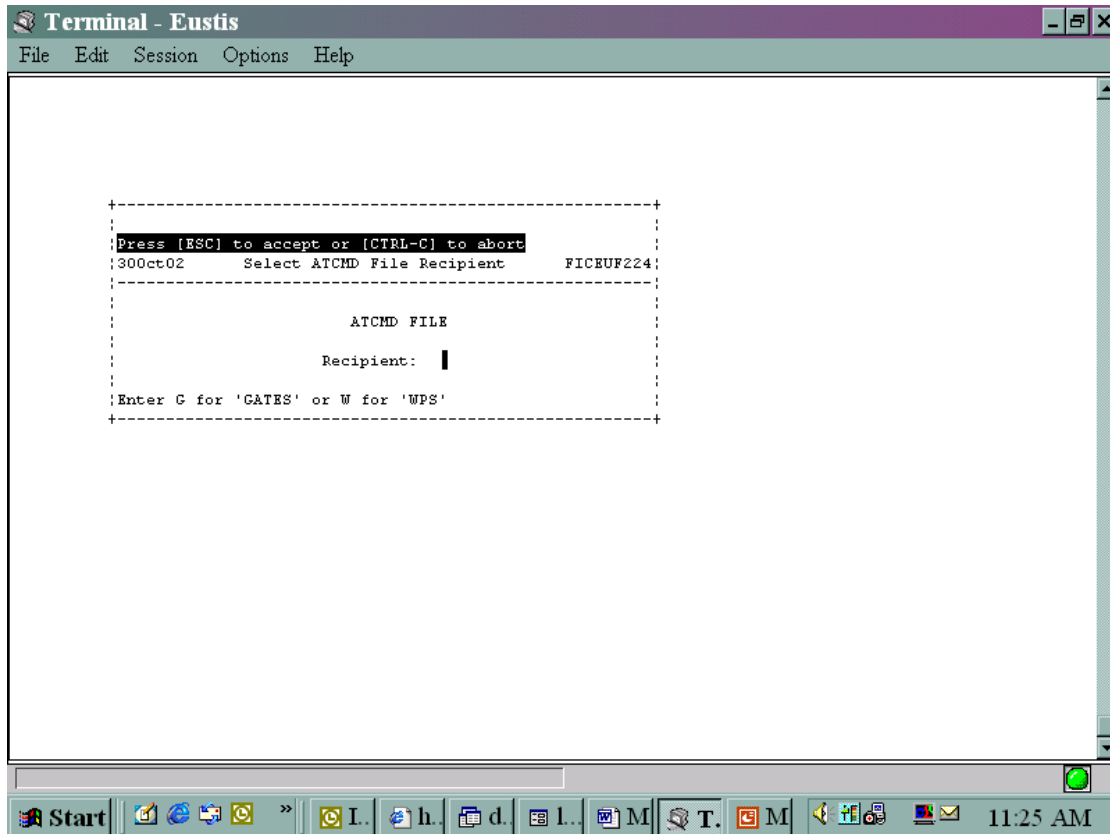

Figure 2-5 Strategic Conveyance
2-10. From the ATCMD format select Strategic Conveyance (Figure 2-5). For an air movement select GATES (G); for a sea movement select WPS (W)